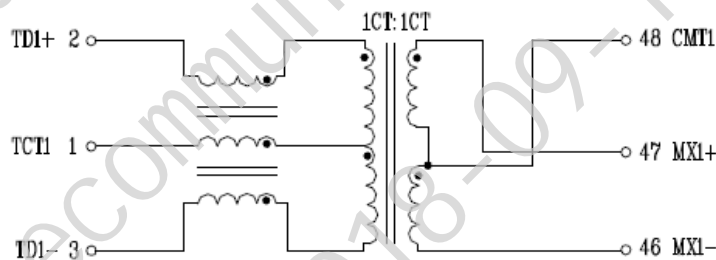

Figure 1. The Transformer with Common Mode chock at IC Side
- Recommend using the transformer with common mode chock at IC side for better EMI / ESD performance (see Figure 1).